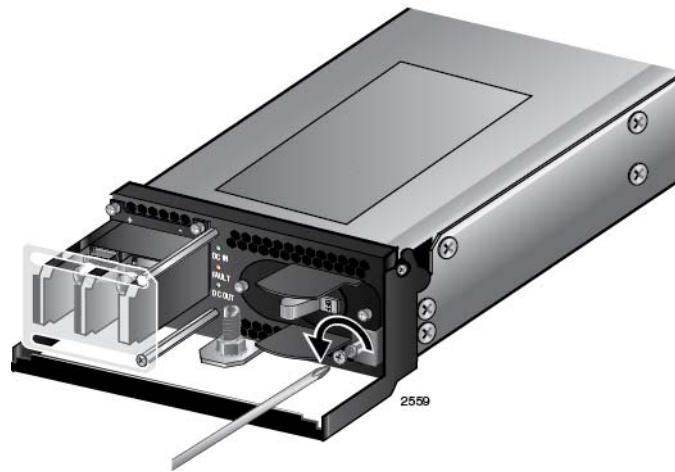

Figure 32. Loosening the Handle locking Screw on the AT-SBxPWRSYS1-80 DC Power Supply
4. With a #2 Phillips-head screwdriver, loosen the handle locking screw on the power supply, as shown in Figure 32.